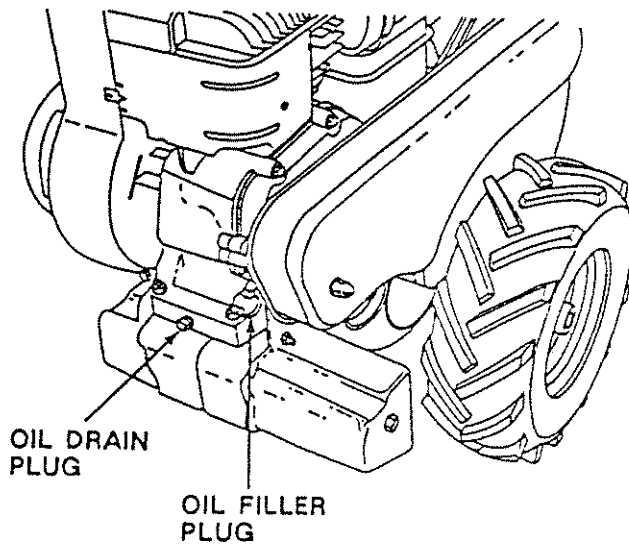

FIGURE 24
- When Engine is drained of all oil, replace Drain Plug (Fig. 24).